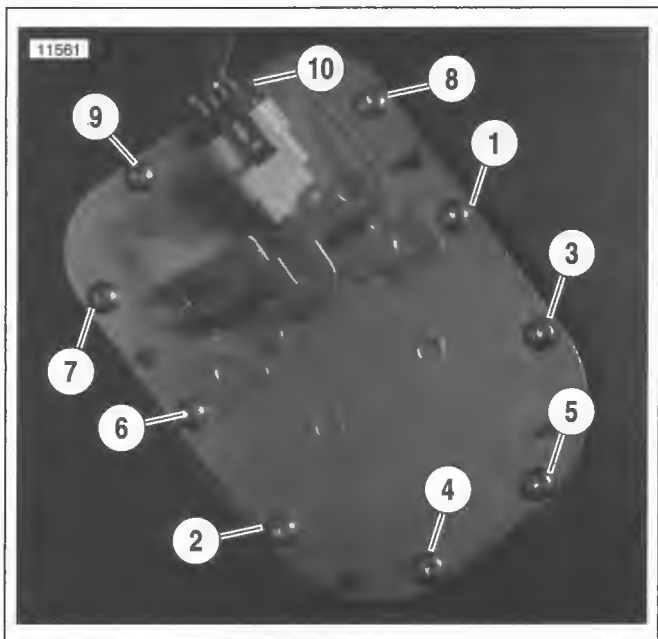

Figure 4-51. Top Plate Torque Sequence
6. See Figure 4-51. Place gasket and top plate on tank, loosely install new sealing screws.